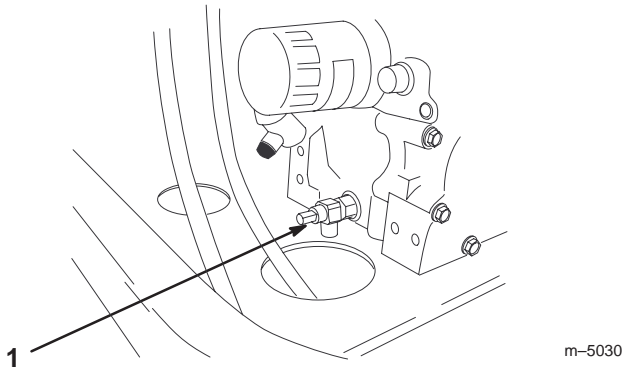

Figure 41
3. Place a pan below the oil drain. Rotate the oil drain valve to allow oil to drain (Fig. 41).